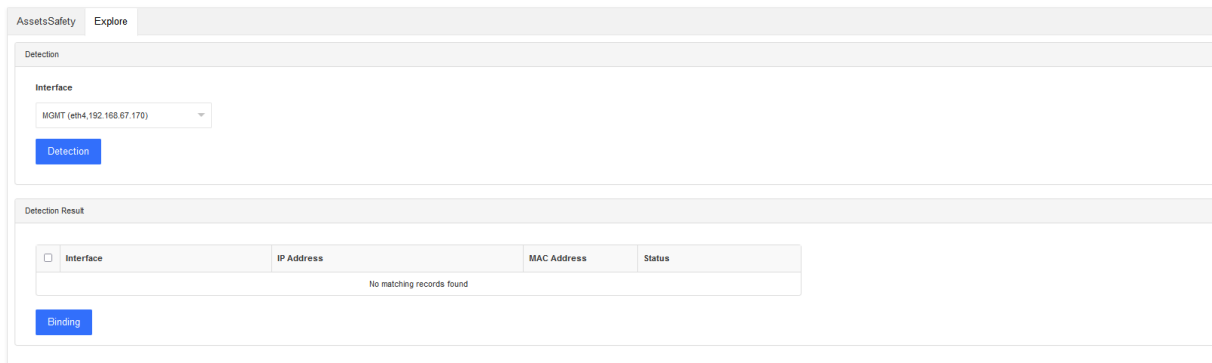

Figure 56
1. Detection: Each detection lasts for 2 minutes. Select the interface and click Detection to enter the detection interface, as shown in Figure 56: